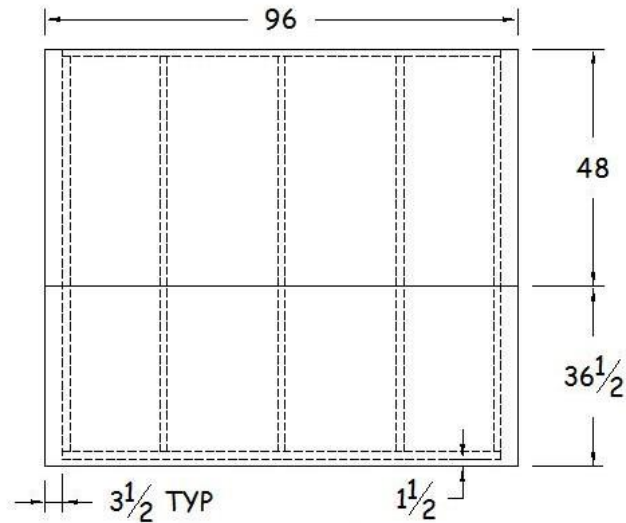

Figure 22-7. Back Wall Sheathing.
- c. Cut an additional piece of 1/2" OSB, approximately 36 1/2" x 96", to fit below the upper section of OSB. This piece should fit tight to the upper OSB piece, overhang each side by 3 1/2", and overhang the bottom plate by 1 1/2". A scrap piece of 2x4 can be used as a gauge for the 3 1/2" and 1 1/2" overlap. Nail into all studs and the bottom plate with 8d nails every 8-12". See Figure 22-7.